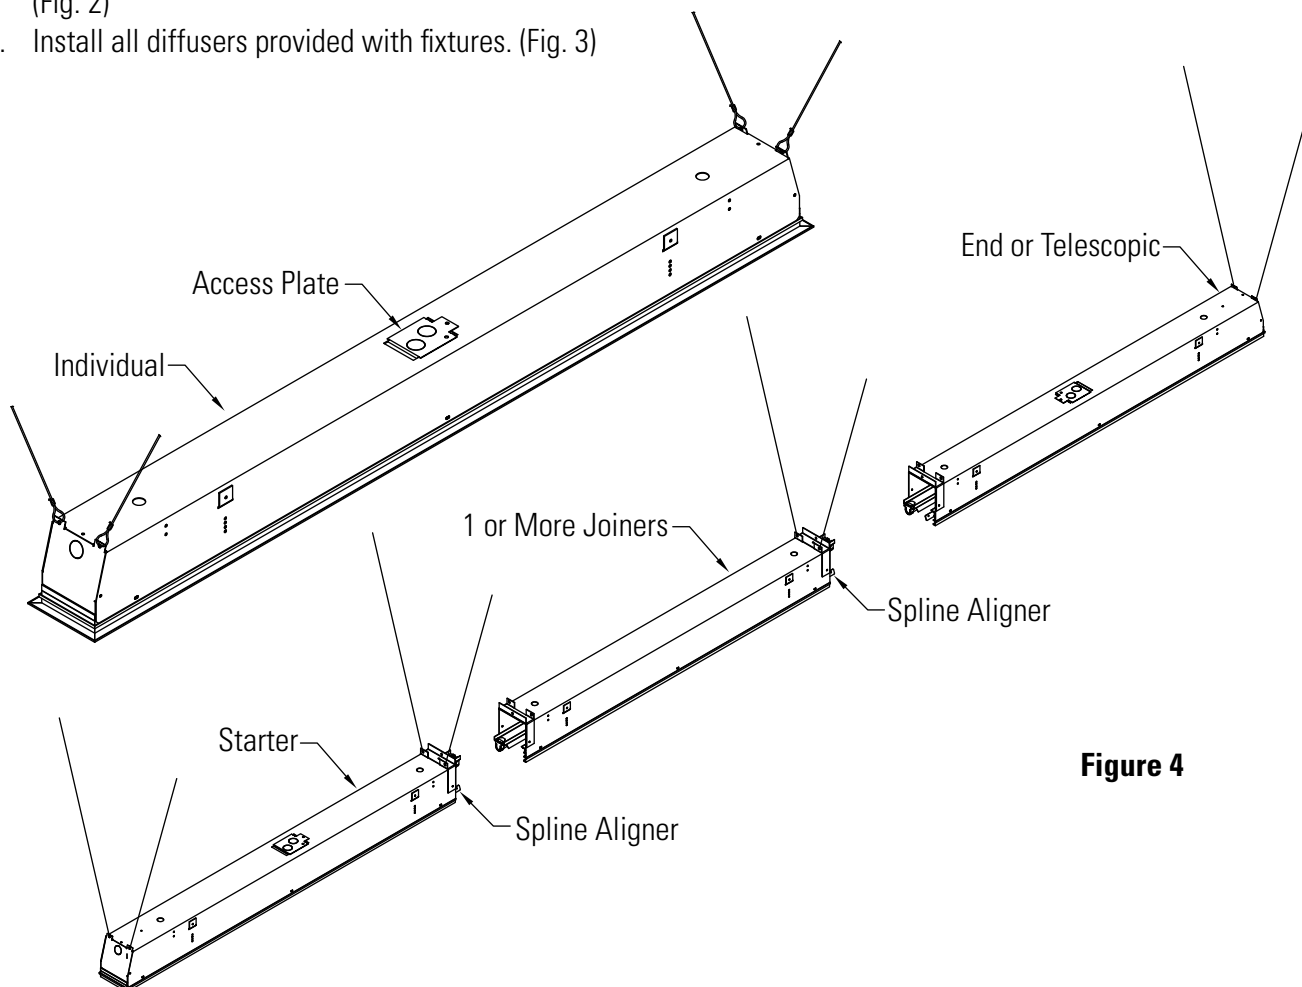

Figure 4
2. Remove access-plate on top of fixture to gain access to splice compartment, remove a 7/8" (2.22cm) knockout from access-plate and pull necessary wires out of fixture. (Fig. 4)
3. Provide power to fixture per NEC & local codes and re-install access-plate. (Fig. 4)
5. Remove access-plate on top of starter fixture to gain access to splice compartment, remove a 7/8" (2.22cm) knockout from access-plate and pull necessary wires out of fixture. (Fig. 4)
6. Provide power to fixture per NEC & local code and re-install access-plate. (Fig. 4)